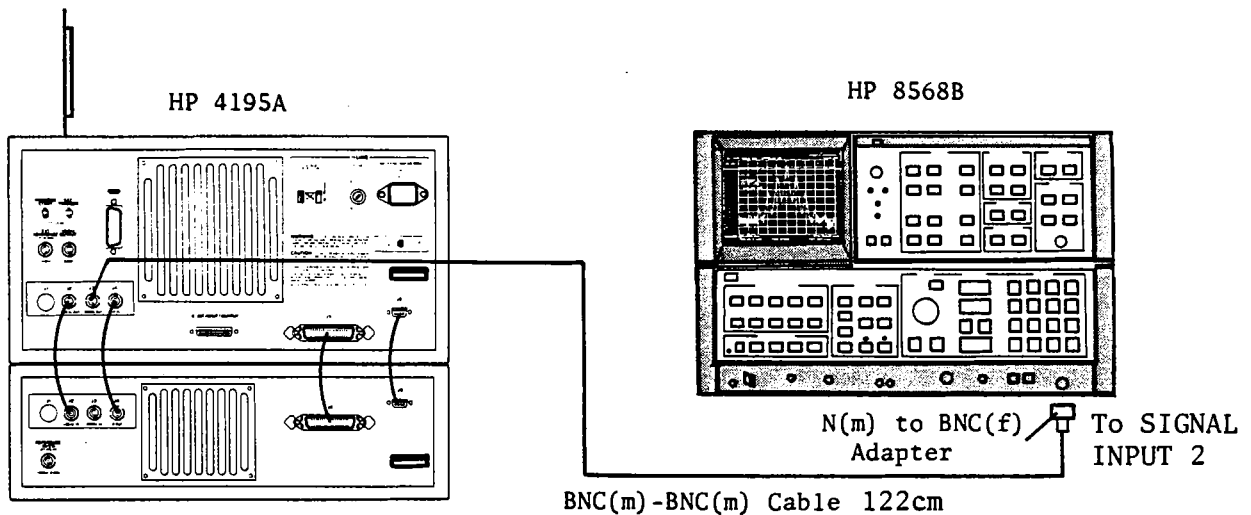

Figure A-1. 80 MHz Reference Source Level Adjustment Setup
2. Connect the equipment as shown in Figure A-1.